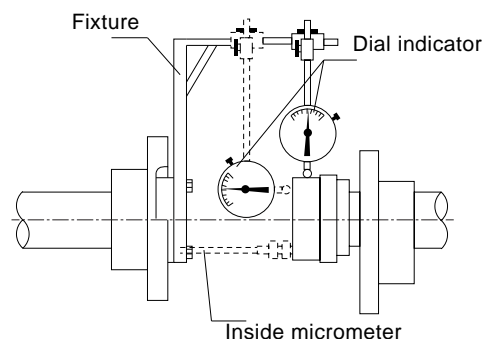

Fig. 8 Dial indicator figure
- An alternate test for parallel and angular alignment may be made with a dial indicator mounted as shown in fig. 8.